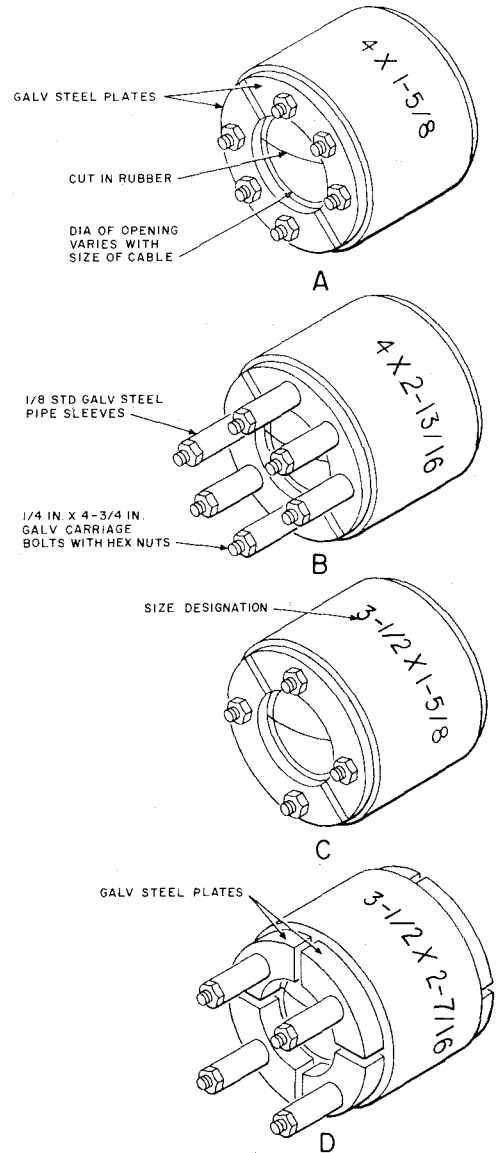

Fig. 3—Round Split Rubber Conduit Plugs
3.06 The round split rubber plugs shown in Fig. 3 are used for sealing cables in single or multiple round bore conduit.
3.07 In sealing a duct containing a relatively large size cable, the type of plug shown in Fig. 3(B or D) is required. The restricted space limitations between cable and duct walls requires the use of elongated bolts. See 3.04.
Note: In the case of a round split plug having four steel plates at each end [Fig. 3(D)] the bolt to be removed temporarily is the one that passes through the slit in the rubber.